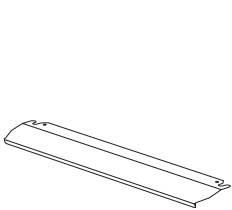

Figure 25
1. A safety panel is designed to protect control panel and the buttons when the oven is in grill mode. (figure 25)